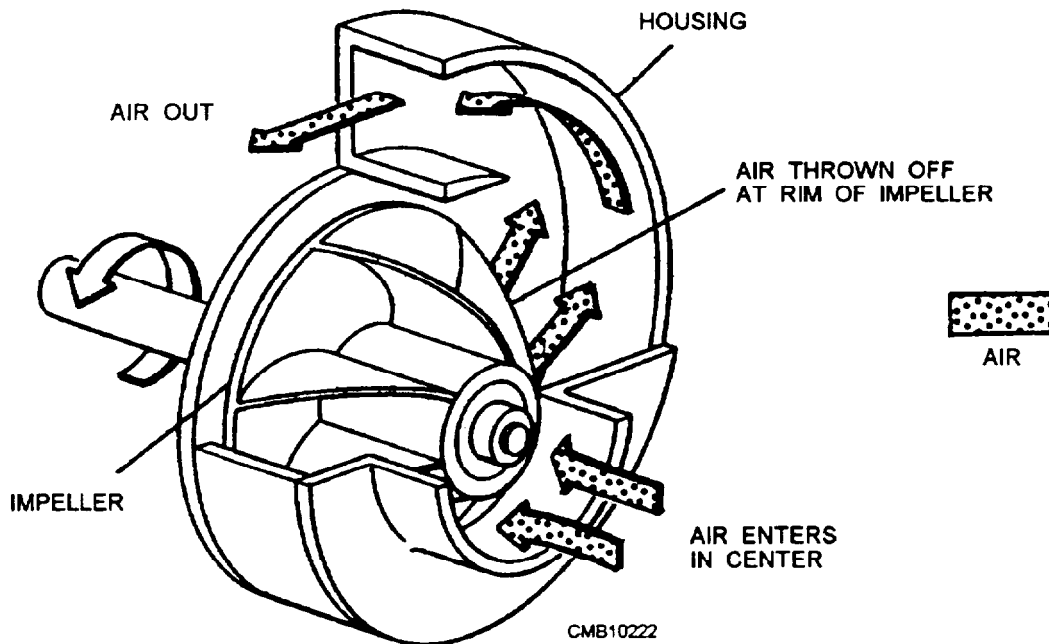

Figure 5-39.—Centrifugal supercharger.
1. **Centrifugal supercharger** (fig. 5-39). The centrifugal supercharger has an impeller equipped with curved vanes. As the engine drives the impeller, it draws air into its center and throws it off at its rim. The air then is pushed along the inside of the circular housing. The diameter of the housing gradually increases to the outlet where the air is pushed out.